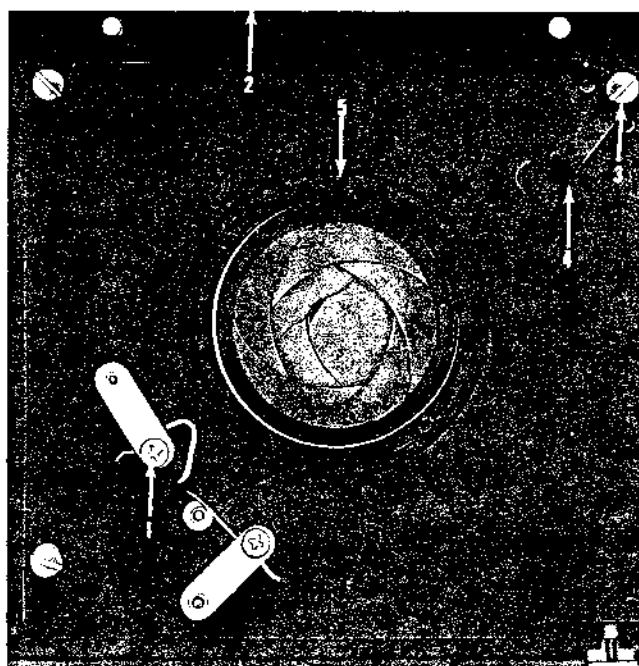

Figure 11.
- d. Spanner wrench (Figure 3) to remove retaining nut (5, Figure 11).
t. On Model 2A, position contact plate assembly (2, Figure 11) on rear housing, bringing wire leads thru hole in plate assembly. On Model 2B, position cover assembly (1, Figure 25) on rear housing.
u. Assemble retaining nut (5, Figure 11). Use Spanner wrench (Figure 3) to tighten.
v. On Model 2A, locate rangefinder cam retainer (4, Figure 11) as shown. Insert three screws (3) and tighten. On Model 2B, insert three screws (2, Figure 25) and tighten.
w. On Model 2A, position two wire leads under two contacts and secure with two screws (1, Figure 11).